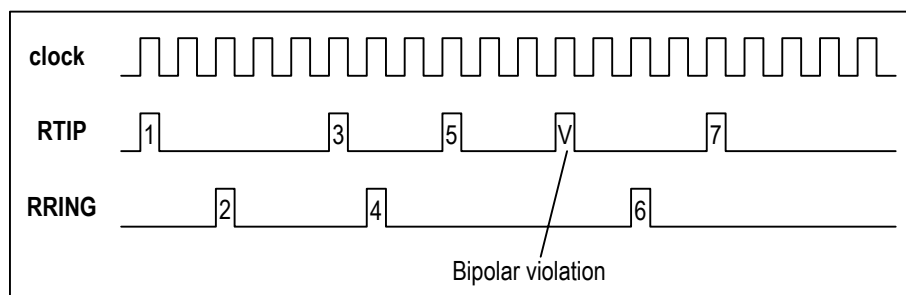

Figure 6. AMI Bipolar Violation Error
1. Bipolar Violation (BPV) Error: When AMI line code rule is used, the BPV error will be detected if two consecutive pulses are received with the same polarity (refer to Figure 6). The event of the Bipolar Violation (BPV) Error is forwarded to the Performance Monitor.
2. B8ZS Code Violation (CV) Error: When B8ZS line code rule is used, a CV error is detected when the received code does not match the standard B8ZS line code pattern (except the Excessive Zero error).